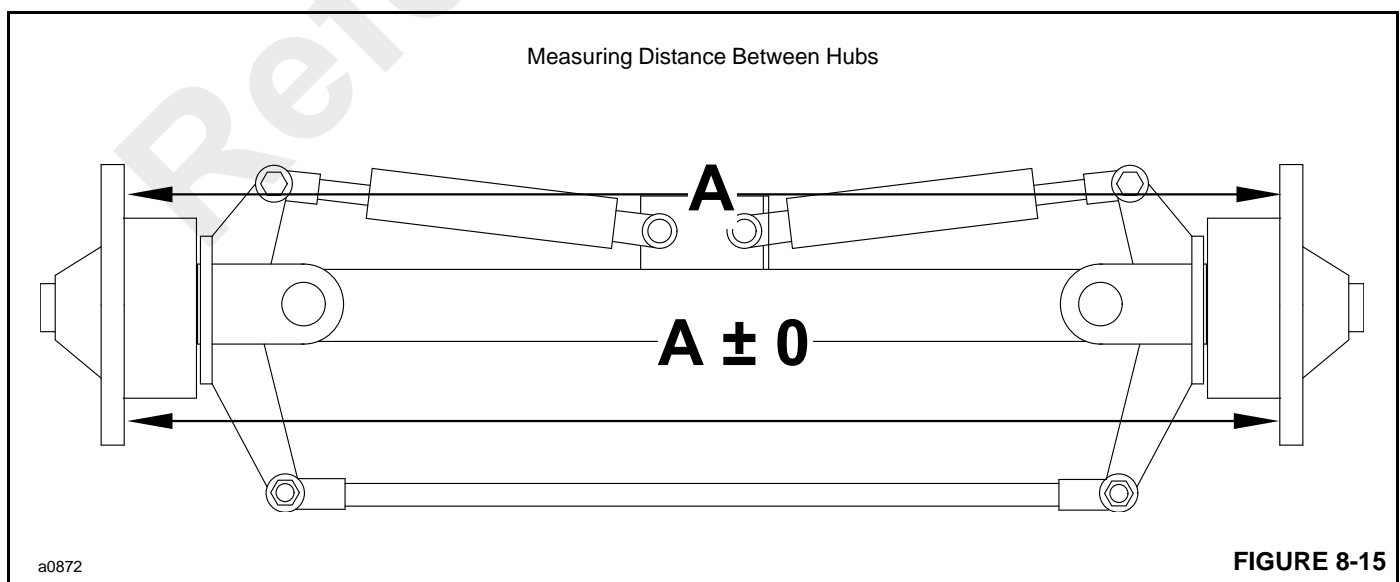

**FIGURE 8-14**
3. On one end of tie rod loosen the ball joint clamp (Figure 8-14).